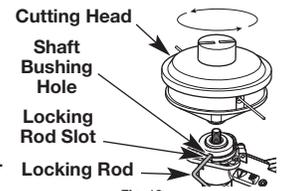

Fig. 12
1. Position the cutting head as shown (Fig. 12). Align the shaft bushing hole with the locking rod slot. Insert the locking rod into the shaft bushing hole.
3. While holding the locking rod, attach the cutting head to the output shaft by screwing it counterclockwise until it is fully seated (Fig. 12).